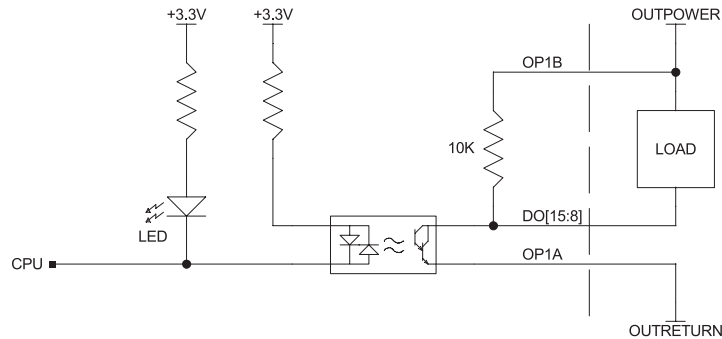

Figure 5: Low Power Sinking Outputs
OP1A and OP1B are the Output Power for Bank 1. The output can sink up to 25mA of current. The device should be connected between the digital output DO[15:8] and the positive side of the power supply. When current is **not** flowing through the opto-coupler (CB), the 10k resistor pulls-up the output pin to the voltage supplied to OP1B. When current **is** flowing through the opto-coupler (SB), the digital output drops to Ground (supplied by OP1A) and is able to sink up to 25mA of current. The **bold** connections in Figure 5 are external connections.